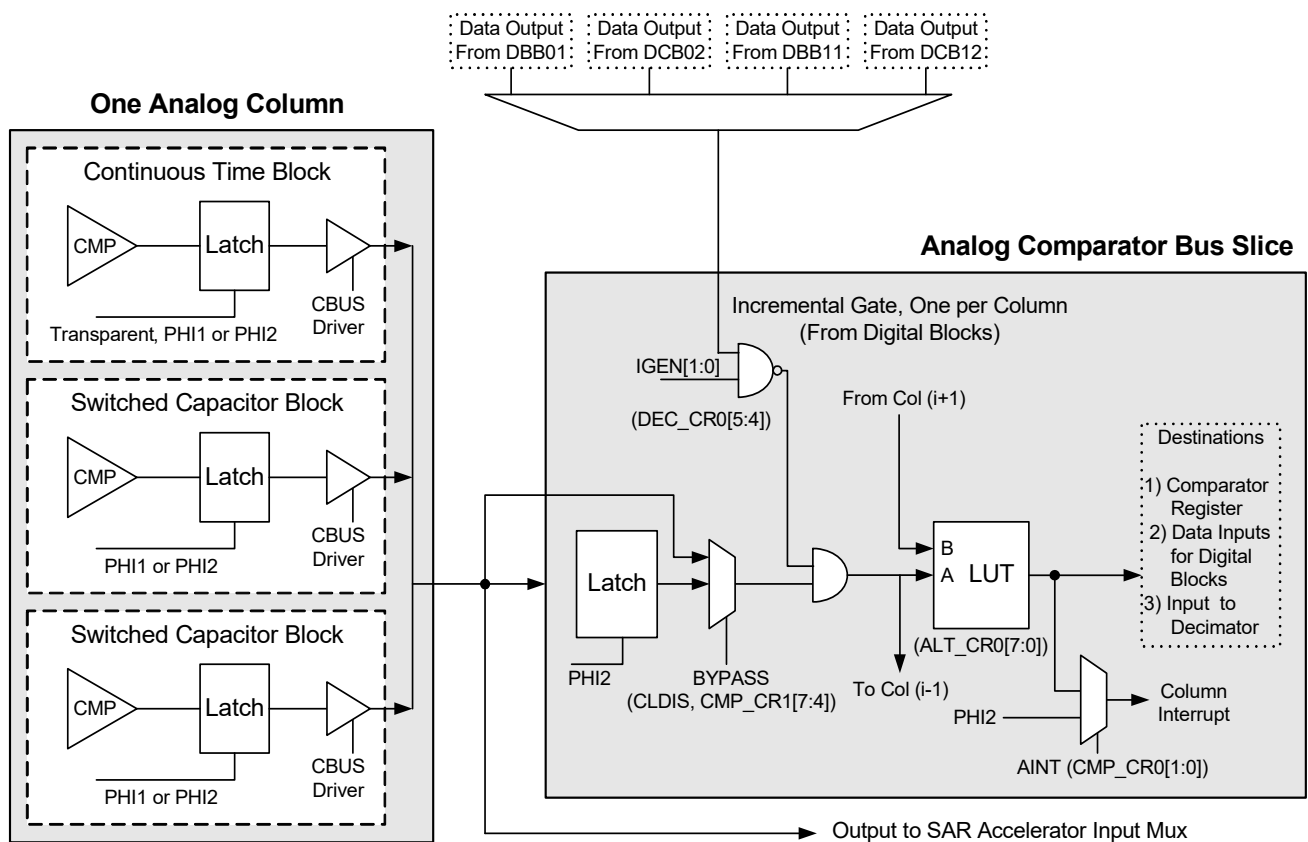

Figure 18-1. Analog Comparator Bus Slice
Figure 18-1 displays the top level diagram of the PSoC device’s analog interface system.
Figure 18-1 illustrates one column of the comparator bus. In the Continuous Time (CT) analog blocks, the CPhase and CLatch bits of CT Block Control Register 2 determine whether the output signal on the comparator bus is latched inside the block, and if it is, which clock phase it is latched on. In the Switched Capacitor (SC) analog blocks, the output on the comparator bus is always latched. The ClockPhase bit in SC Block Control Register 0 determines the phase on which this data is latched and available.
As shown in Figure 18-1, the comparator bus output is gated by the primary output of a selected digital block. This feature is used to precisely control the integration period of an incremental ADC. Any digital block can be used to drive the gate signal. This selection may be made with the ICLKS bits in registers DEC_CR0 and DEC_CR1. This function may be enabled on a column-by-column basis, by setting the IGEN bits in the DEC_CR0 register.